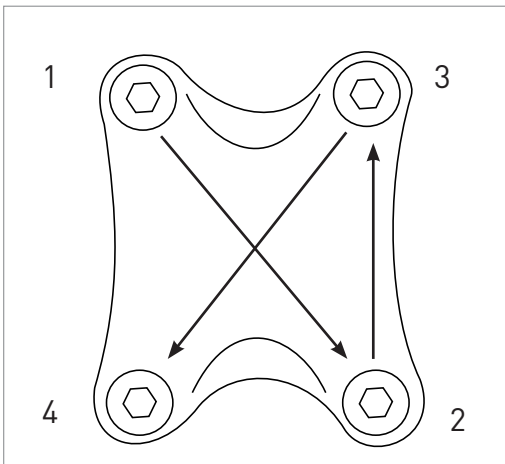

Figure 2
- Remove and lubricate the handlebar clamp bolt threads with grease. Inspect the stem and handlebar clamping area for any burrs. Lightly clamp the handlebar face plate onto center of the handlebar, inserting and tightening both bolts just enough to hold the bar. Center and rotate the handlebar to the desired position. Alternately tighten the bolts working from the upper left, to the lower right, to the upper right, to the lower left in half-turn increments until they reach an equal reading of 5-8Nm (fig. 2). The upper and lower gaps between the front cap and the rear portion of the handlebar clamp should be equal. Install the components onto the handlebar, if necessary.